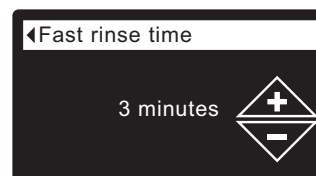

FIG. 82
- 8d. **Fast rinse time:** Press the UP (▲) or DOWN (▼) buttons to change the fast rinse time. Hold the button down to rapidly advance. The fast rinse time can be set from 1 to 30 minutes* (See Figure 82).